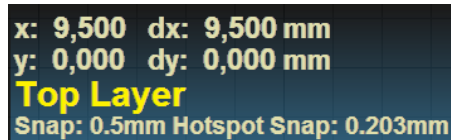

Figure 29. Heads Up Display showing incremental cursor position
44. Slowly move the position of Pad 2 until the *HUD* displays (Figure 29):